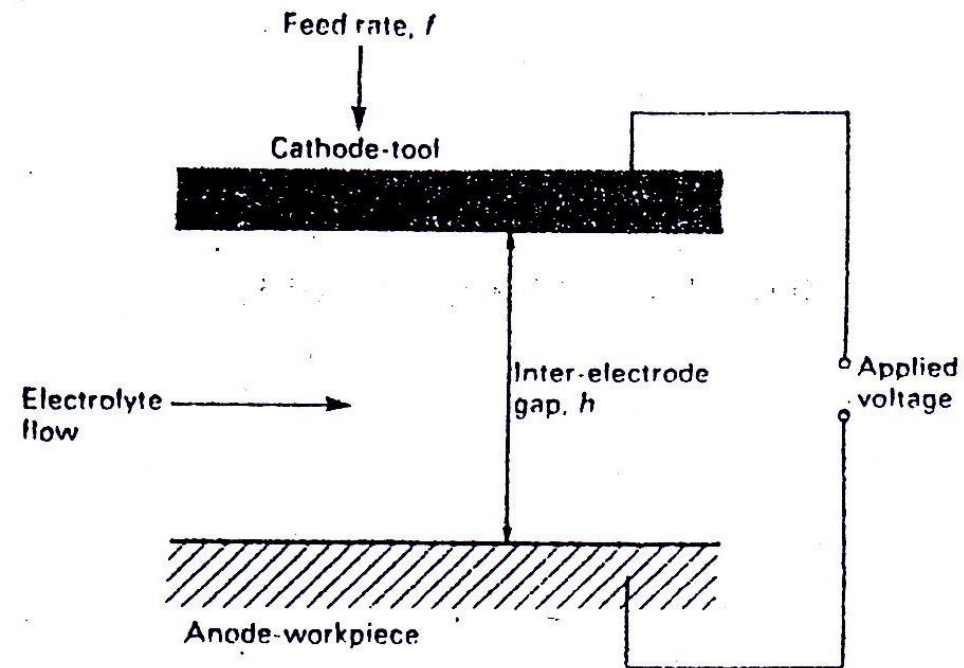

Fig. 6 Plane parallel electrodes in ECM.
- Say a constant voltage V , is applied between two parallel electrodes (Fig. 6).